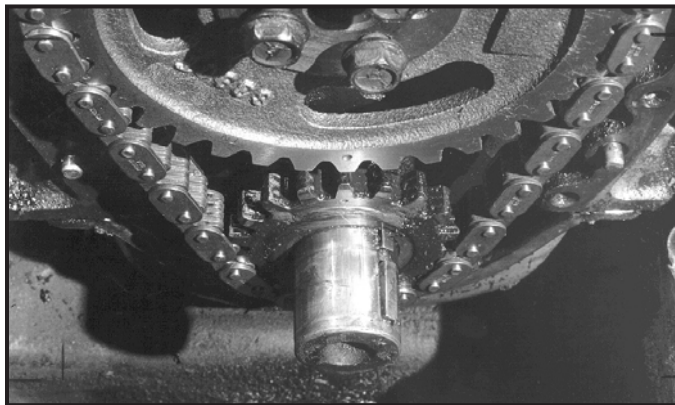
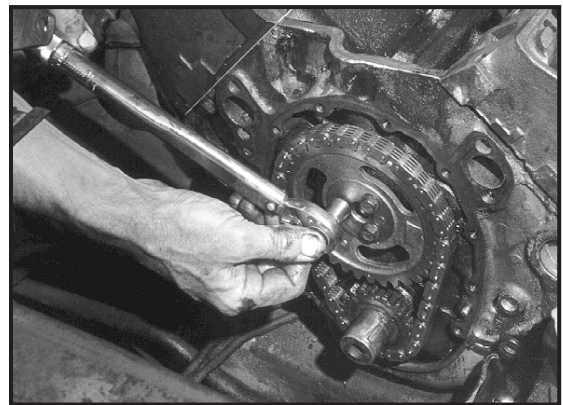

Figure 4
Figure 5
5. Remove the cam sprocket, install a new Crane chain, and bolt the assembly in place. Check the timing mark alignment (Figure 4) or your engine manual. Tighten the cam sprocket retaining bolts to correct torque specifications.(Figure 5) This is very important as most cam damage is caused by the cam gear coming loose due to improperly torqued bolts or worn keys and keyways. If the gear loosens, the cam will slide back into the block causing the lifters to hit the adjacent lobes and bearing journals.